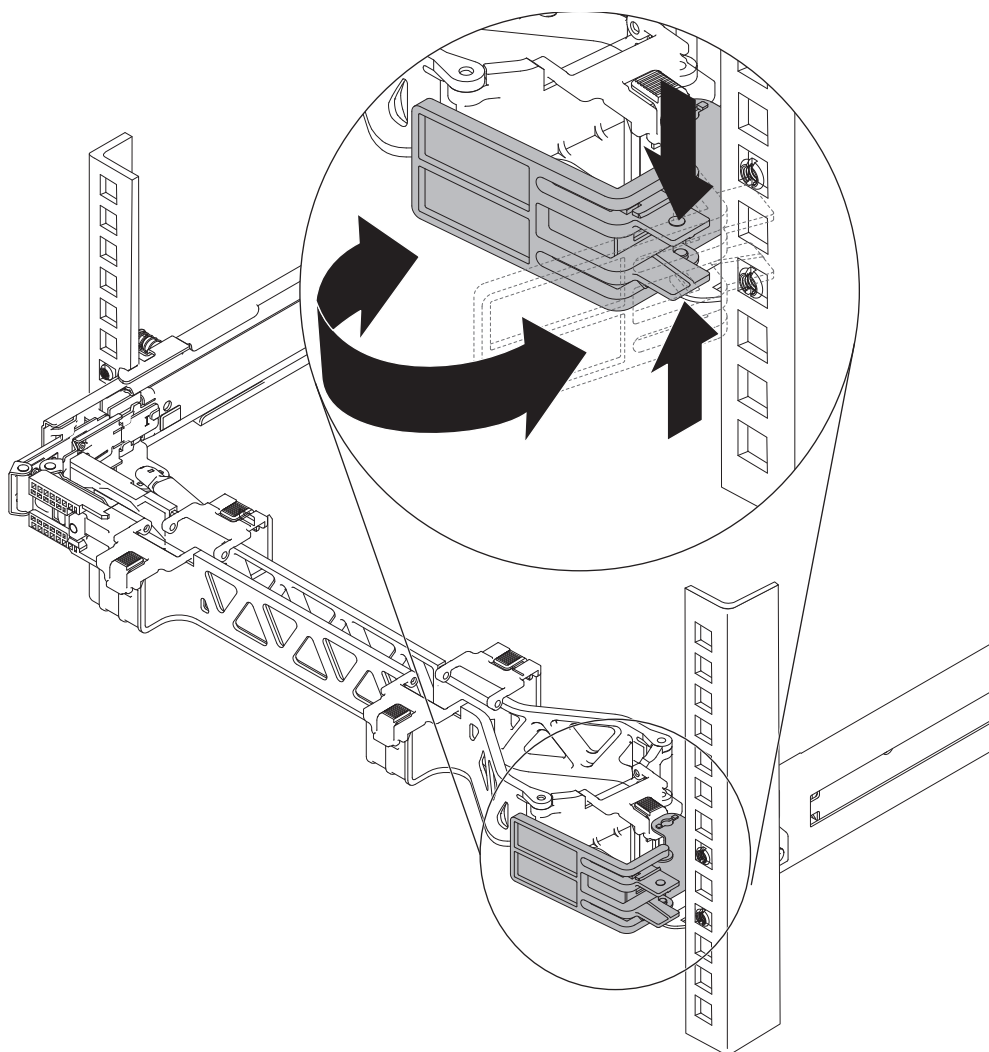

Figure 31. Closing the cable management support stop
5. Close the cable management support stop, as shown in Figure 31 on page 42.